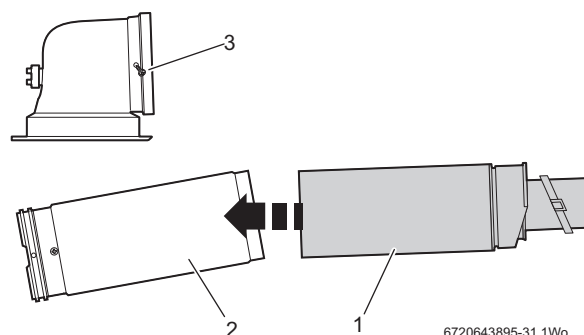

Fig. 36 Reducing the standard terminal
- ▶ If the required length is less than 350mm the standard telescopic flue can be modified, refer to fig. 36.